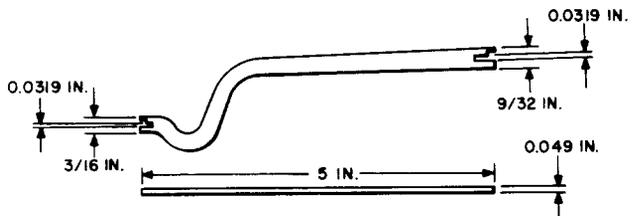

Fig. 8—AECO H-14769 Adjuster Tool
2.08 AECO H-14769: The AECO H-14769 tool (Fig. 8) is an armature backstop adjuster used on step-by-step type relays.